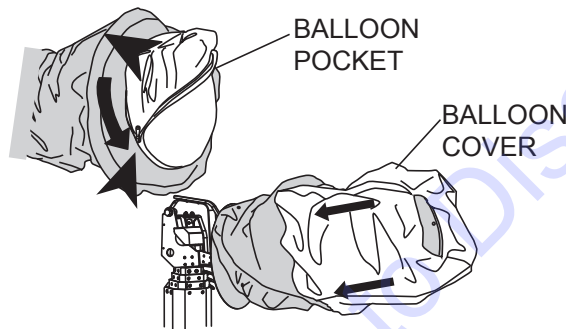

Figure 18. Unzipping Balloon Cover
1. Unzip the cover pocket at the top of the balloon. Take out the cover and fold the balloon with it (Figure 18).